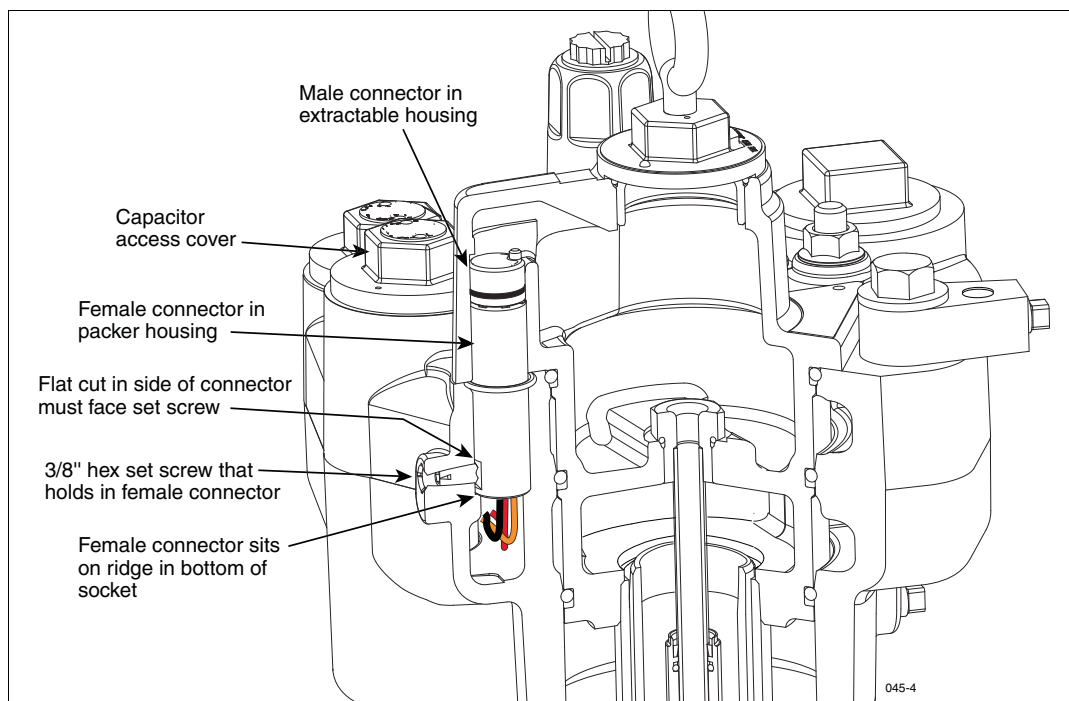

Figure 37. Locating Female Connector Set Screw
21. Remove capacitor access cover (see Figure 37). Remove and discard the O-ring from the cover and set aside the cover. Observe the three wiring connections from the female connector. Make a note of which wire from the connector connects to which wire from the incoming power wiring. Cut the incoming power wires from the female connector wires and discard the connectors.
22. Using a 3/16" hex wrench, turn the set screw that holds the female connector in place about 1-1/2 turns counterclockwise until you can lift out the connector (see Figure 37).